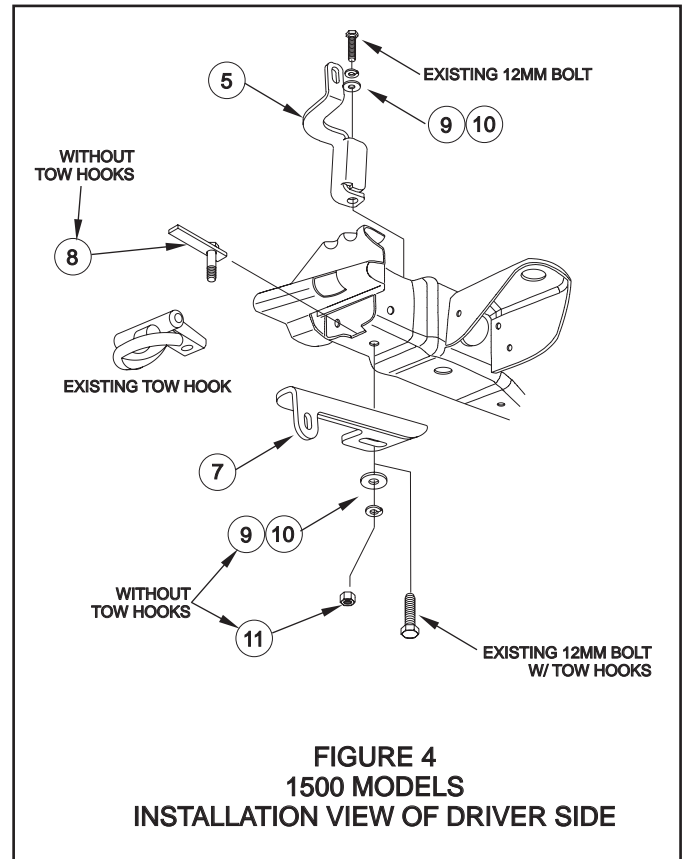

FIGURE 4
- STEP 5. To install top brackets, remove both 12mm factory bumper bolts from top of frame (located behind the top side of bumper), then replace with top mount brackets as shown. **SEE FIGURE 4.**